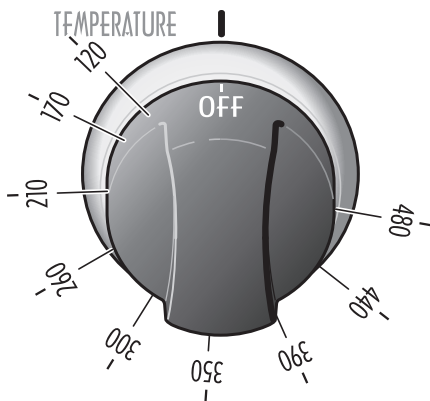

Fig. 3.2
**THERMOSTAT KNOB** (fig. 3.2)